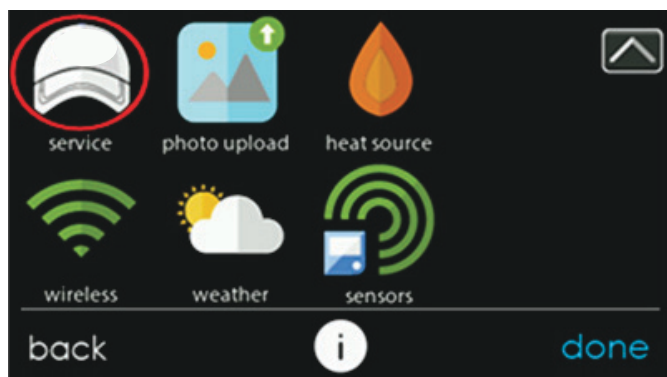
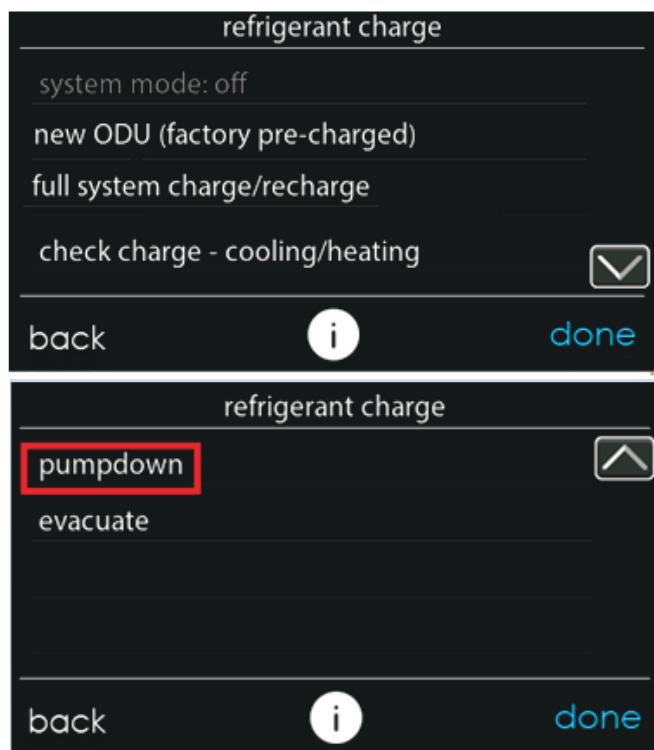

Fig. 12 – Entering Installation and Service Menu
Fig. 22 – Pumpdown and Evacuation Selection
5. Navigate to the "Installation and Service menu" by performing a long press on the service icon from the main screen (see Fig. 12). Once in the "Installation and Service" menu, select "Refrigerant Charging" (see Fig. 13).
2. In the "installation and service" menu of the Evolution™ Connex™ System Control (see Fig. 12), go to "refrigerant charging" and then "pumpdown" (see Fig. 13 and Fig. 22).